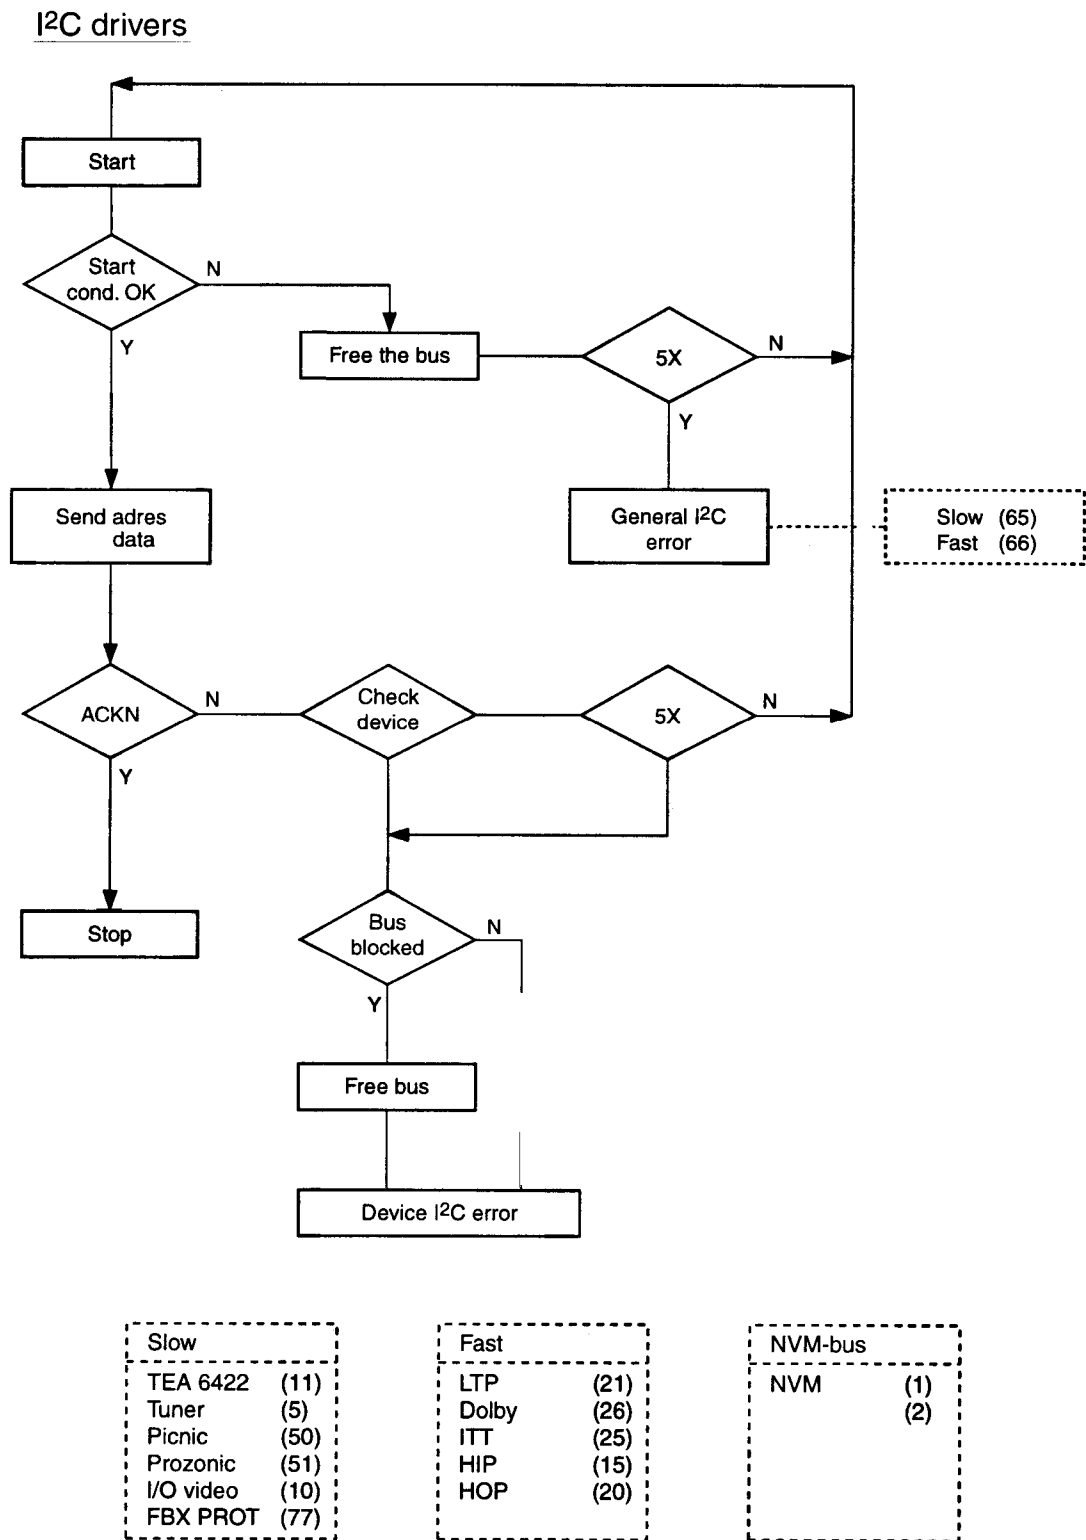

Figure 5-7
5.4.2 Protection from the I²C bus (fig. 5.7)